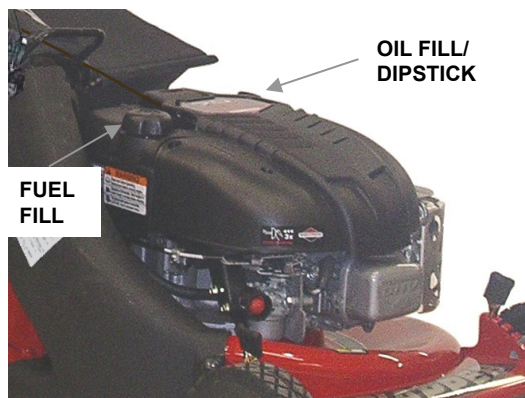

FIGURE 2.2
2.1.4. Check engine oil and add as needed to bring level up to 'full' mark on dipstick. See Figure 2.2. Refer to Engine Owner's Manual for oil specifications.
2.1.5. Add fuel to tank. See Figure 2.2. Fuel mower outside where fumes can safely dissipate. Make sure cap is tightened after refueling. Refer to Engine Owners Manual for fuel specifications.